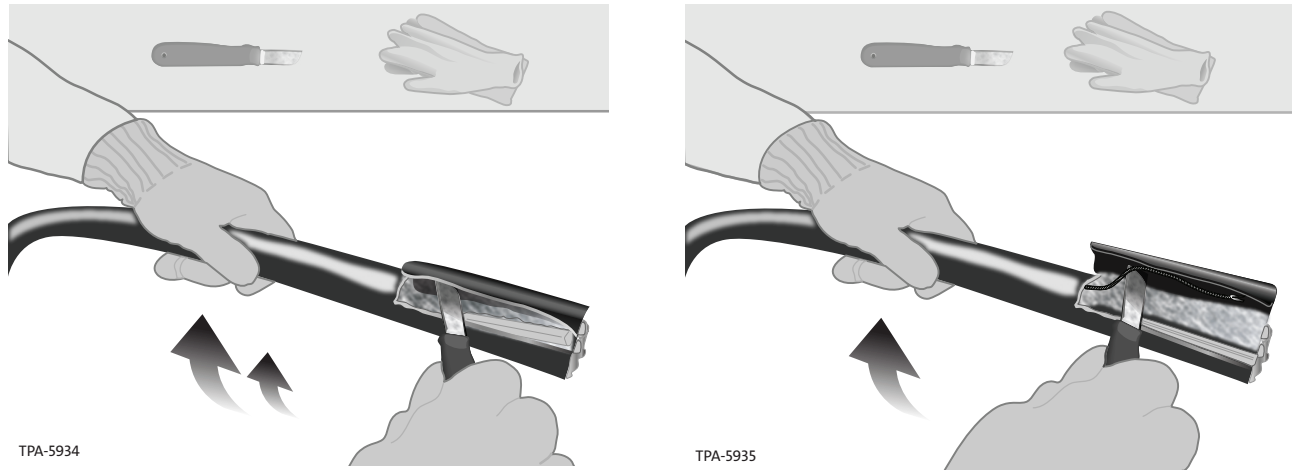

Figure 13
Step 3: Pry open the jacket using a sheath (chipping) knife (Figure 13).